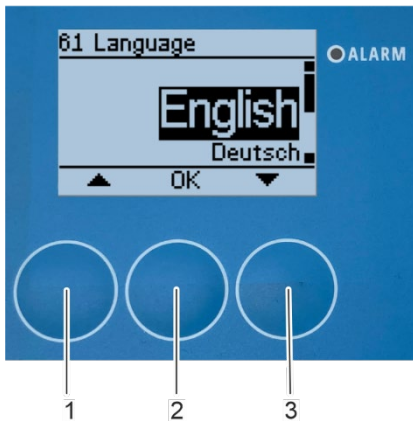

Fig. 109: Language selection
1. Use the arrow keys [up] (Fig. 109/1) and [down] (Fig. 109/3) to select the desired language.
2. Confirm the selection with [OK] (Fig. 109/2).